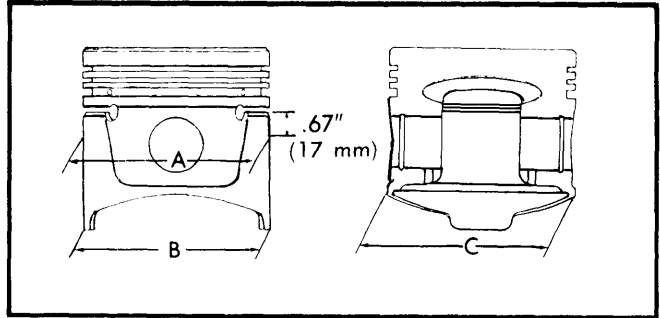

Fig. 6 Points for Measuring Piston
2) Carefully inspect pistons and replace those severely damaged due to scoring, scratching or burning. Measure pistons at points A, B & C, as shown in Fig. 6 using a micrometer. If piston is not within specifications, replace piston and rebore cylinder.